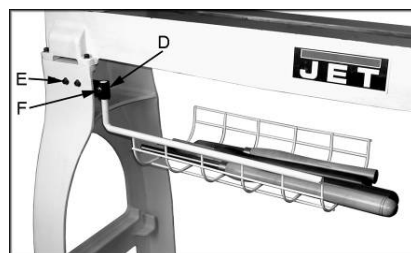

Fig 2
Mount the bracket (D, Fig 2) to the lathe leg with 2 screws (E), washers and nuts.